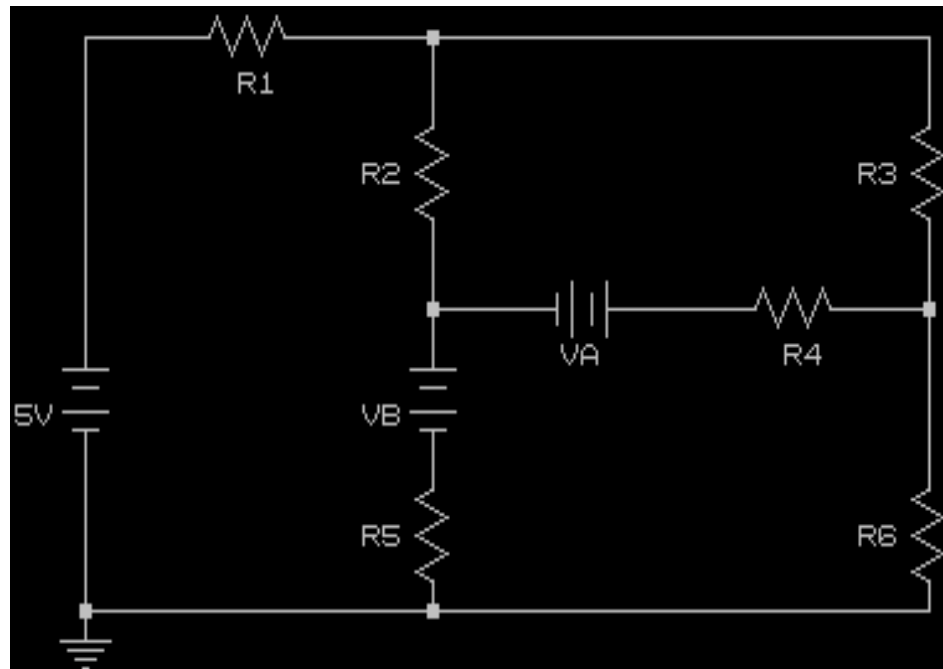

Figure 3 - Record **COMPUTER SIMULATION** Resistor Voltages & Currents Above
- _4) perform a computer simulation of the circuit using SNAP, SPICE, PSpice®, or other software package approved by your instructor, and use the results of the computer simulation to find the current through (magnitude and direction) and the voltage (magnitude and polarity) across each resistor. Record all currents and voltages on Fig. 3, and in the table you created in step 1. Print the simulation, and submit it with this report.